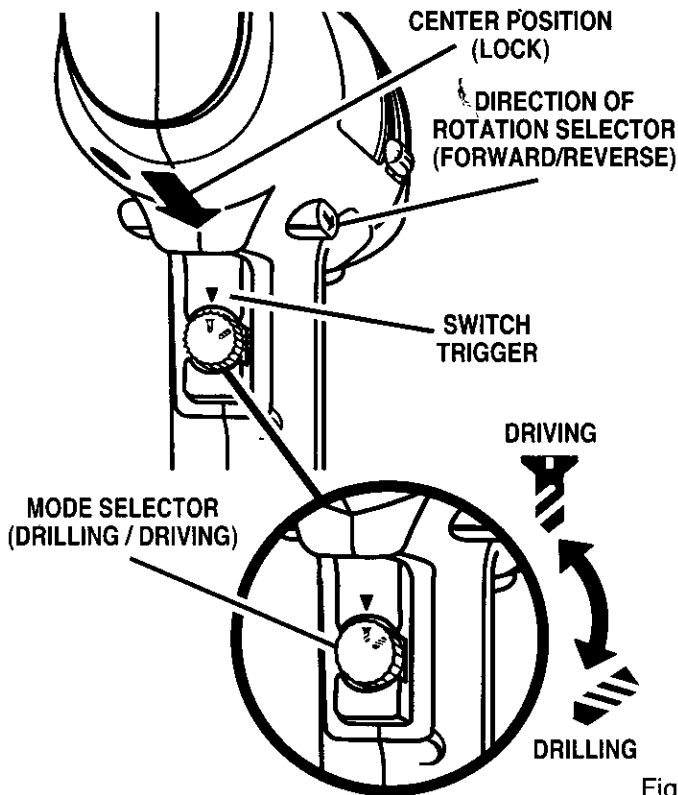

Fig. 3
See Figure 3.
- Lock switch trigger on your drill-driver by placing the direction of rotation selector in center position. See Figure 3.